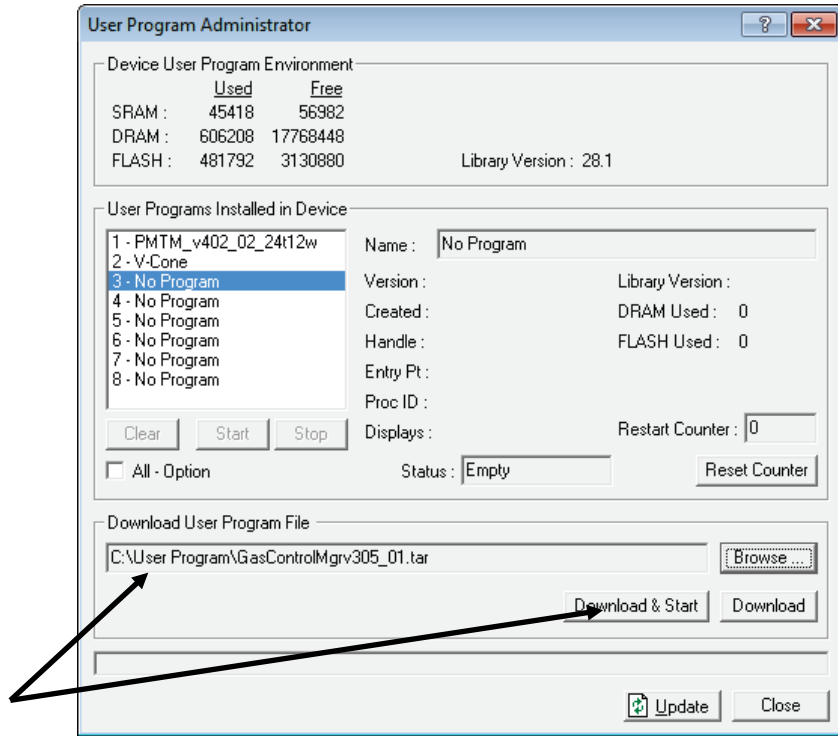

Figure 5. User Program Administrator
6. Click **Open** to select the program file. The User Program Administrator screen displays. As shown in *Figure 5*, note that the